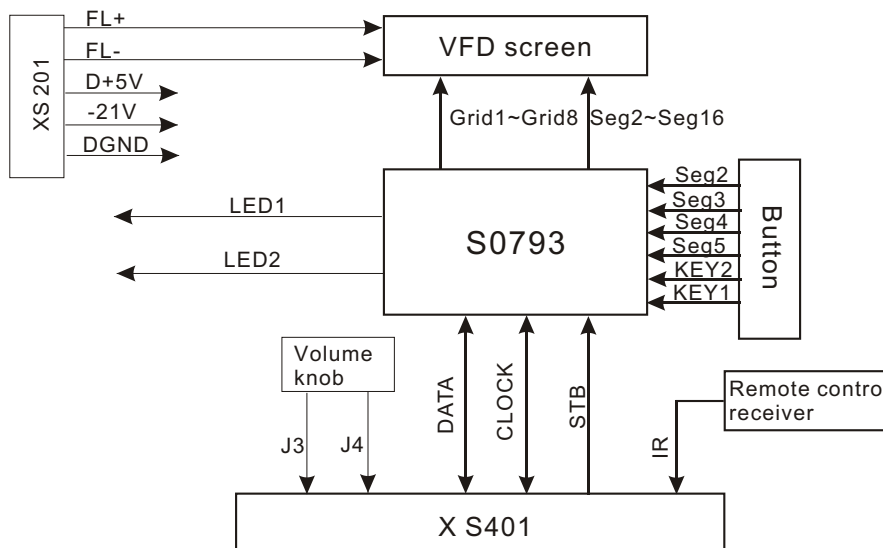

Figure 3.2.5.1 Control panel circuit block diagram
1. Control panel circuit block diagram is shown in the following figure 3.2.5.1: